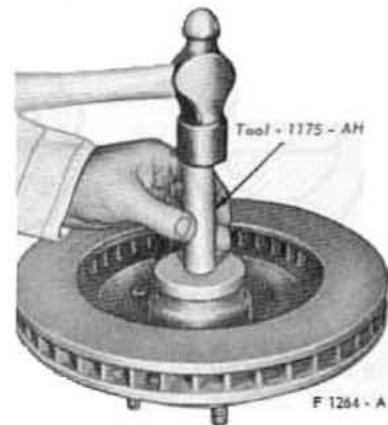

Fig. 93—Grease Retainer Installation
14. Place the inner bearing cone and roller assembly in the inner cup, and install the new grease retainer with the tool shown in Fig. 93. Be sure the retainer is properly seated.